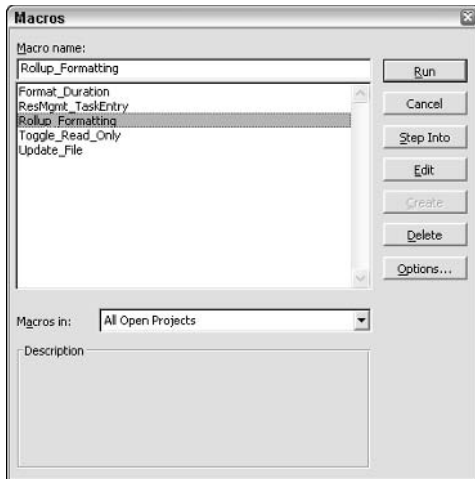

Figure 6-37: Run macros from the Macro dialog box.
5. Choose Tools→Macros. Then choose Macros from the submenu to open the Macros dialog box, as shown in Figure 6-37.